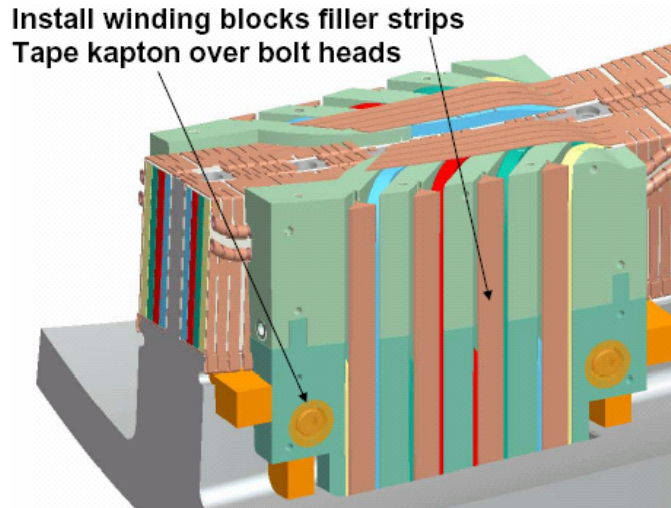

Figure 45- Winding Block Filler Strips
6.44.1 Install the pre-insulated (w/Kapton tape) copper filler strips into the conductor slots in the upper G-11CR winding block fillers. Complete sides “A” and “B”. [Figure 45- Winding Block Filler Strips]
6.44.2 Place adhesive backed Kapton tape over the lower winding block mounting hardware. [Figure 45- Winding Block Filler Strips]